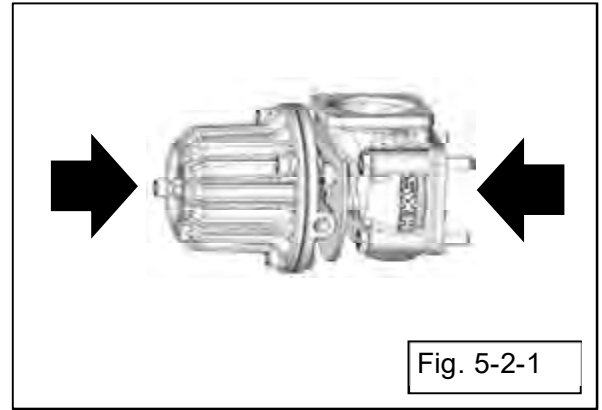

Fig. 5-2-1
(1) Hold the wastegate by a press or a similar tool toward the directions that arrows indicate in figure 5-2-1.